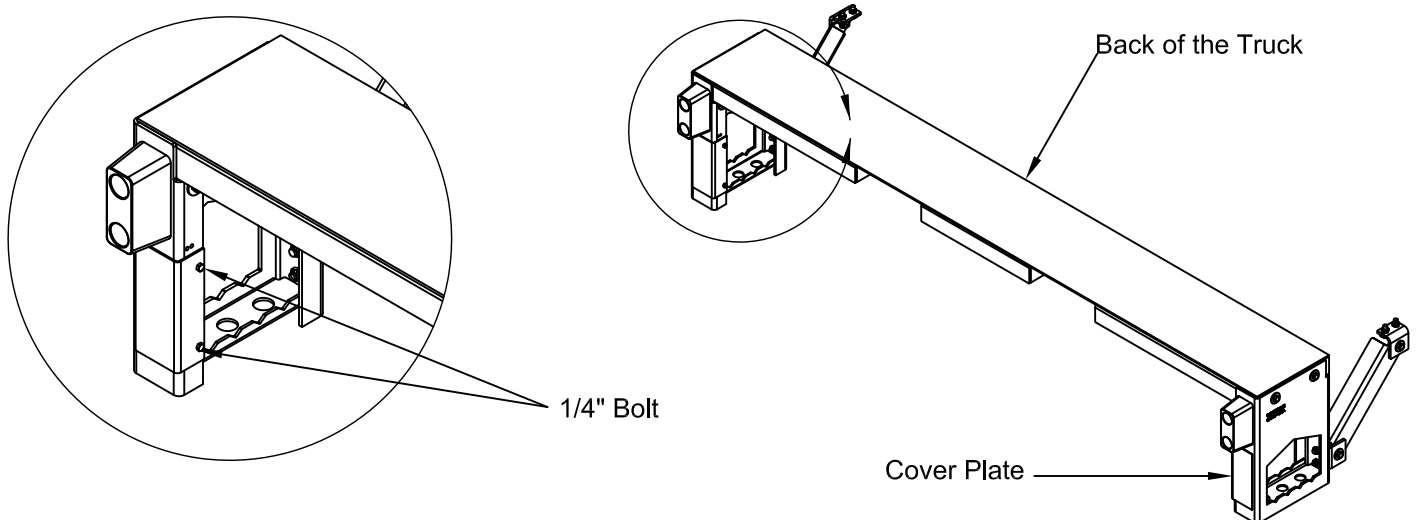

Figure 3: Cover plate location.
3. Remove the cover plate by taking out the two (2) 1/4" hex head bolts on each side with a 3/8" wrench or socket (Figure 3).